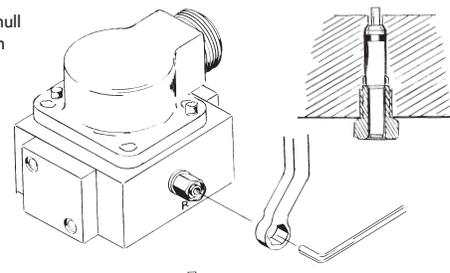

Figure 2
It is often desirable to adjust the flow null of a servovalve independent of other system parameters. The "mechanical null adjustment" on the Moog (G)730K series servovalve allows at least  $\pm 20\%$  adjustment of flow null. The "mechanical null adjustor" is an eccentric bushing retainer pin located above the return port designation on the valve body (see Figure 2) which, when rotated, provides control of the bushing position. Mechanical feedback elements position the spool relative to the valve body for a given input signal. Therefore, a movement of the bushing relative to the body changes the flow null.